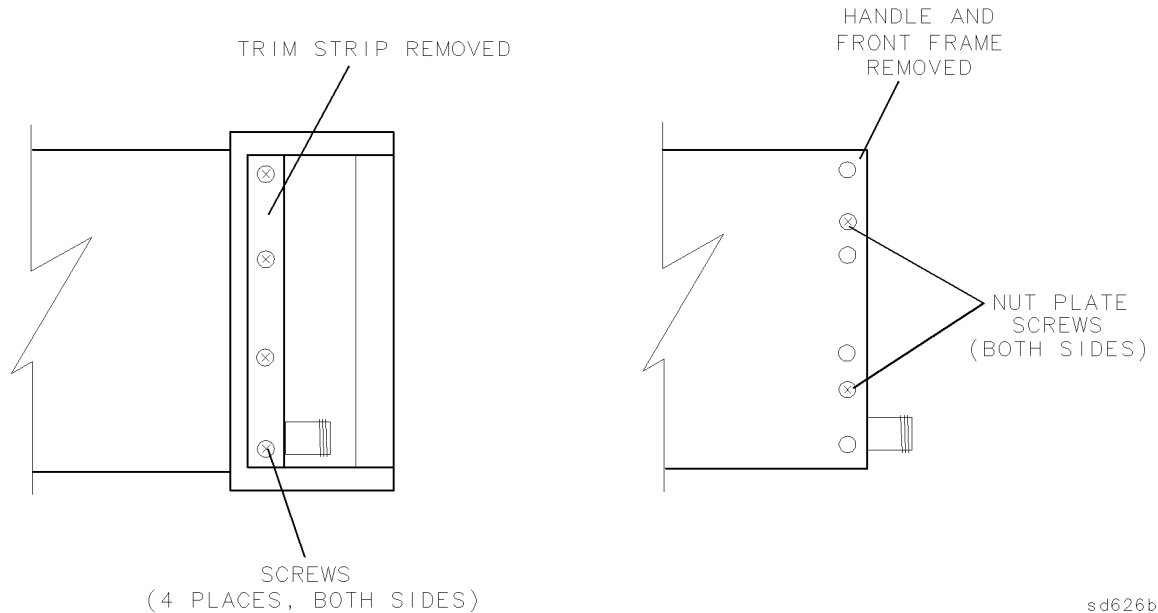

Figure 2-1. Removing the Handles and Front Panel
1. Switch OFF the analyzer's line power. Remove the front panel by following these steps and referring to Figure 2-1: